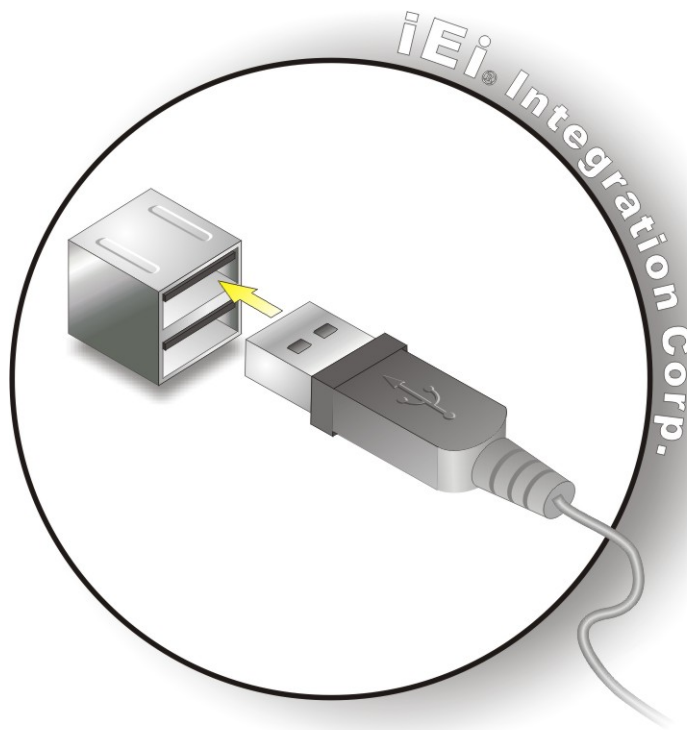

Figure 4-11: USB Connector
**Step 2:** **Insert a USB Series "A" plug.** Insert the USB Series "A" plug of a device into the USB Series "A" receptacle on the external peripheral interface. See **Figure 4-11**.